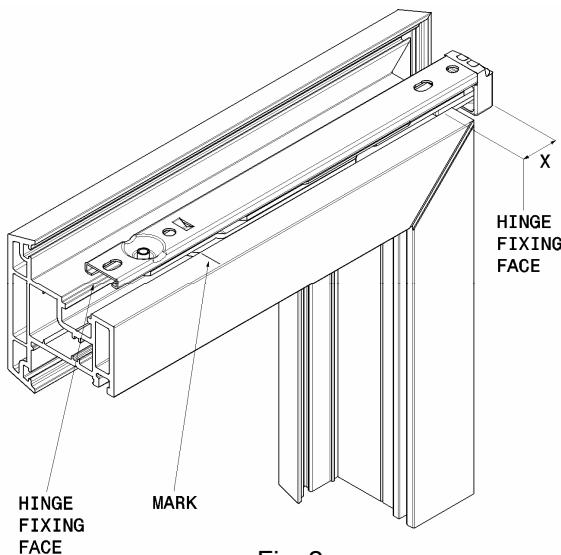

Fig. 2
- 8.1.5.2 **EITHER:** Determine the correct longitudinal hinge position 'x': As shown in Fig. 2